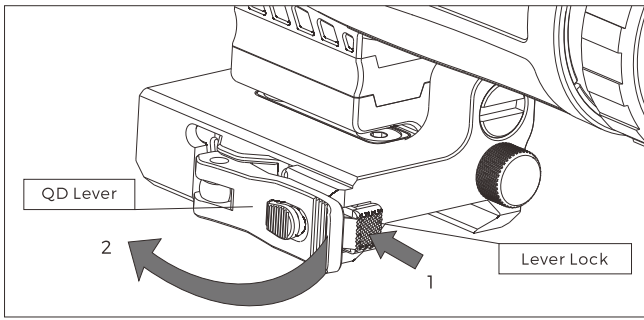

Figure 5
- 1) Press the lever lock forward and release the QD lever as shown in Figure 5.